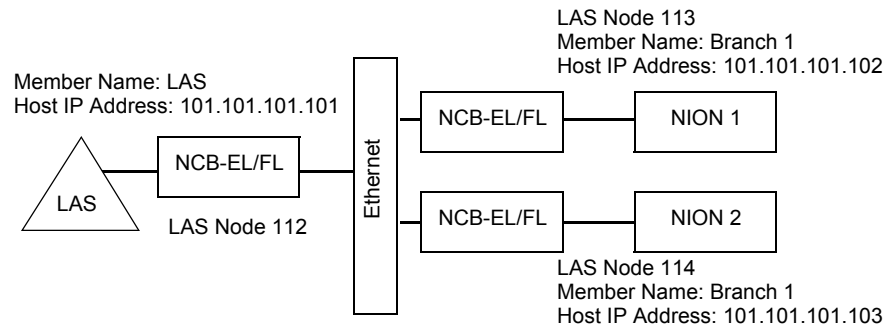
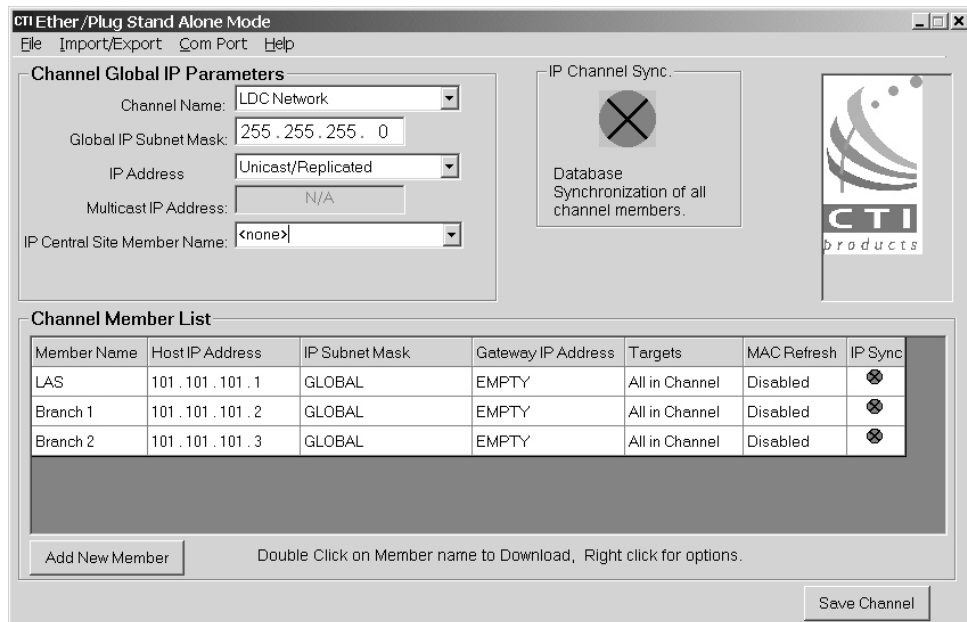
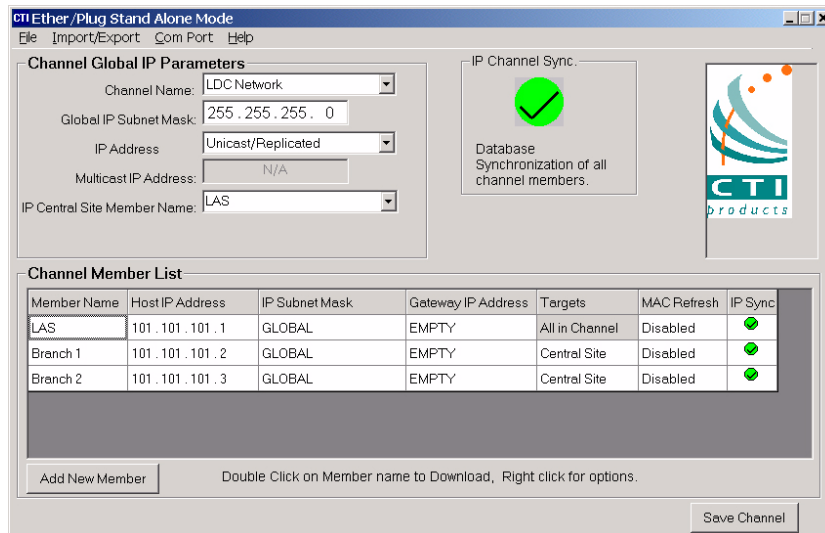
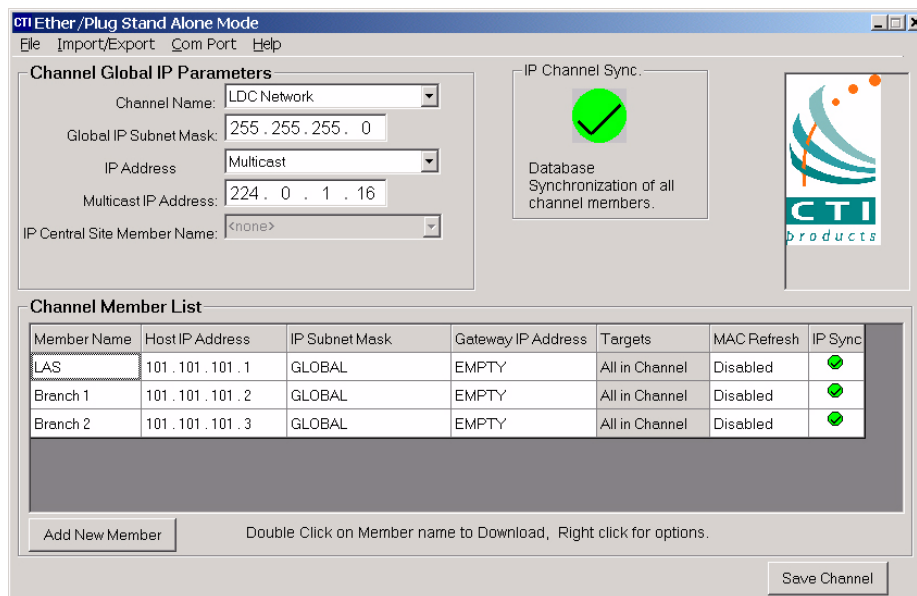

Figure 8.1 NCB-EL/FL Configuration One Example
Figure 8.2 Configuration Example 1 View in Ether/Plug Application
Figure 8.4 Configuration Example 2 View in Ether/Plug Application
Figure 8.6 Configuration Example 3 View in Ether/Plug Application
The simplest configuration of the NCB-EL/FL routers can be achieved when only two or three NCB-EL/FL routers are in use. This network may contain any combination of NIONs and a backup Echelon Gateway. Figure 8.1 shows this connection.
- Each router must be added as a channel member. Initially, the “Channel Member List” is empty. Pressing the Add New Member button will display a box where the member name is to be added. Referring to Figure 8.1, “NCB-EL/FL Configuration One Example” on page 57, the router connected directly to the Echelon Gateway was added with the member name “Ech GW.”
Using Figure 8.1 with the configuration shown in Figure 8.2, when NION 1 sends an event, it is received by the NCB-EL/FL described as Branch 1. Branch 1 NCB-EL/FL will send two TCP/IP messages.
Again using Figure 8.1, when binding the Echelon Gateway’s NCB-EL to the Echelon Gateway, the setting for “Router Connects To” in the LAS “Add Router to Network” dialog box must be “This Computer.” Please see the ONYXWorks™ *Echelon Gateway* manual for detailed instructions on adding a router to the Echelon Gateway. When Branch 1 and Branch 2 routers are added to the Echelon Gateway, each of them must be set to connect to the “Ech GW” router. For example, the NCB-EL/FL router named “Ech GW” is bound to the Echelon Gateway as node 112. When Branch 1 and Branch 2 routers are added to the Echelon Gateway, they are both “connected” to node 112.
The network shown in Figure 8.1, “NCB-EL/FL Configuration One Example” on page 57 will again be used. This configuration will differ from the previous discussion because the IP Central Site Member Name will be used. Figure 8.4 shows the Ether/Plug Configuration settings.
Figure 8.1 will again be used to describe using Multicast messages between the NCB-EL/FL routers. Using Multicast messages, one single TCP/IP message that originates at one of the NCB-EL/FL routers will be received by all other NCB-EL/FL routers in the channel. The Ether/Plug configuration settings are shown in Figure 8.6.